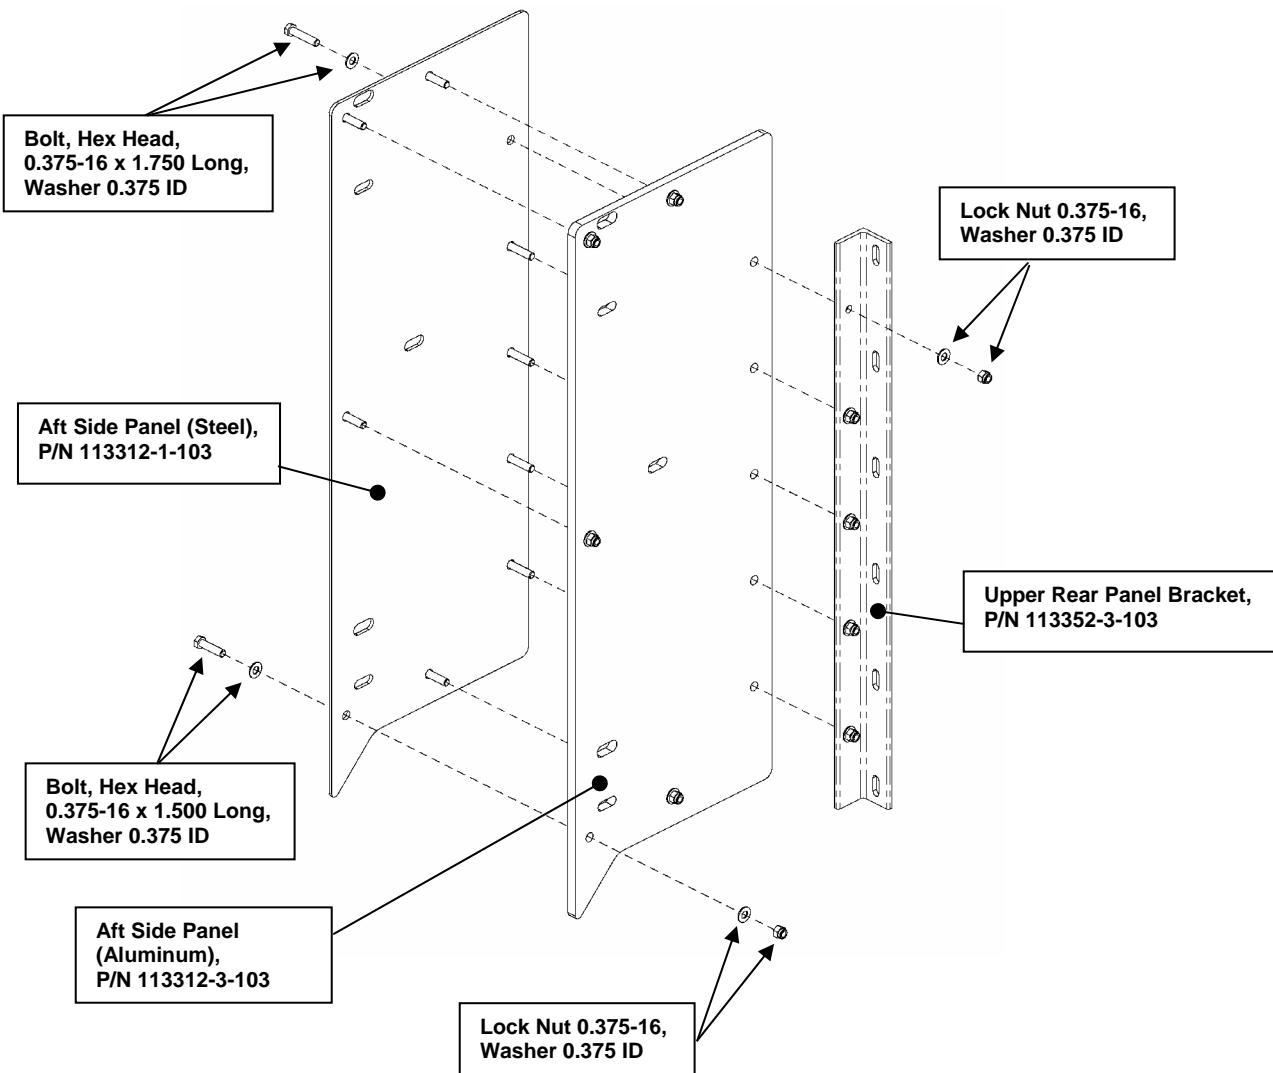

Figure 31. Rear Side Panel Assembly.
- ee) Attach the Steel and Aluminum Aft Side Panels (P/Ns 113312-1-103 and 113312-3-103) together using 0.375-16 x 1.500-in.-long bolts, nuts, and washers in five locations, as shown in Figure 31.
- ff) Attach the Upper Rear Panel Bracket (P/N 113352-3-103) using 0.375-1.75-in.-long bolts, nuts, and washers in the five locations shown in Figure 31.